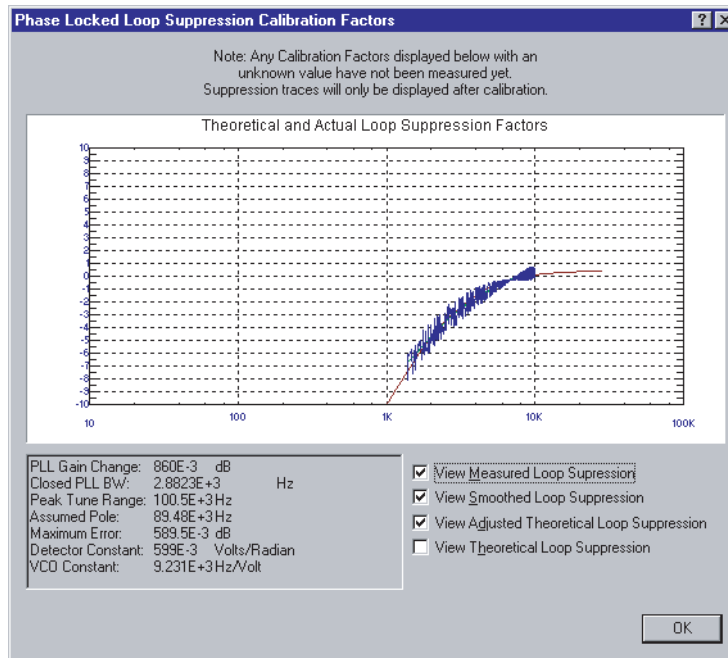

Figure 131 Selecting suppressions
- 2 When the PLL Suppression Curve dialog box appears, select **View Measured Loop Suppression**, **View Smoothed Loop Suppression**, and **View Adjusted Loop Suppression**. See Figure 131 on page 187.